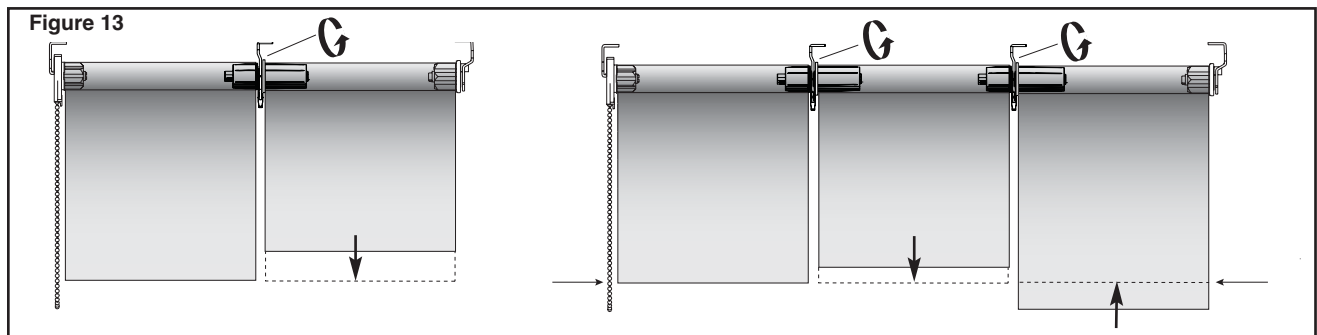

Figure 13
13. Once secured, use the grip wheel on the Infinite Adjuster to adjust the shade on the corresponding tube until it becomes level with the shade on the clutch tube. (Figure 13)